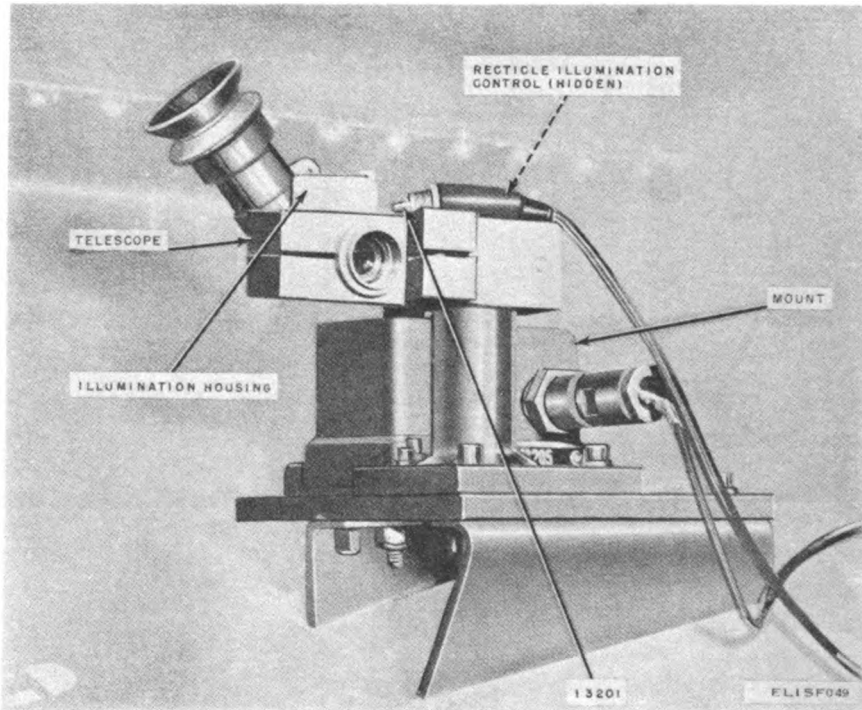

Figure 4-4. Telescope assembly, replacement of reticle illumination lamp.
- (1) Slide the illumination housing off the telescope (fig. 4-4).
- (2) Unscrew the square lamp housing from the lamp socket.
- (3) Replace lamp I 3201. (This lamp is a type 325, 3-volt, 0.19-ampere lamp.)
- (4) Screw the lamp housing back on the socket.
- (5) Slide the illumination housing into place on the telescope.